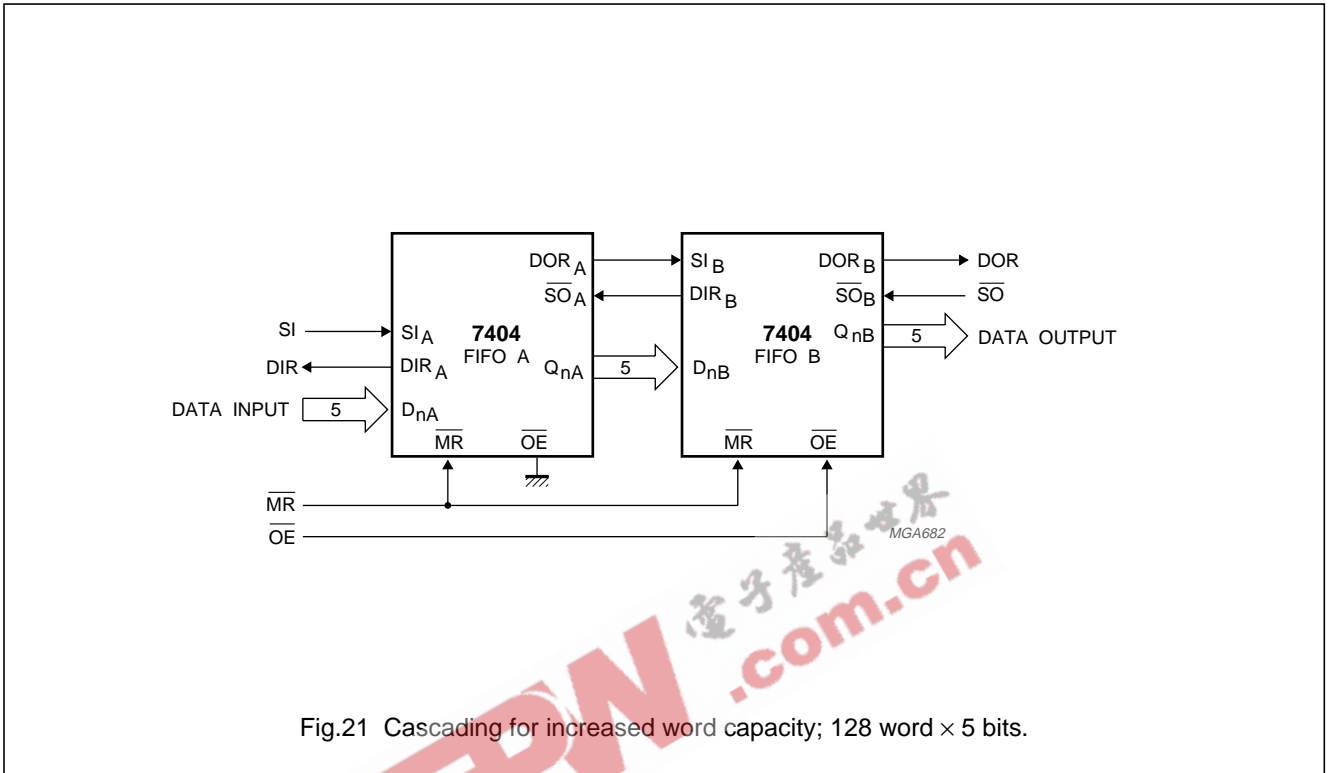
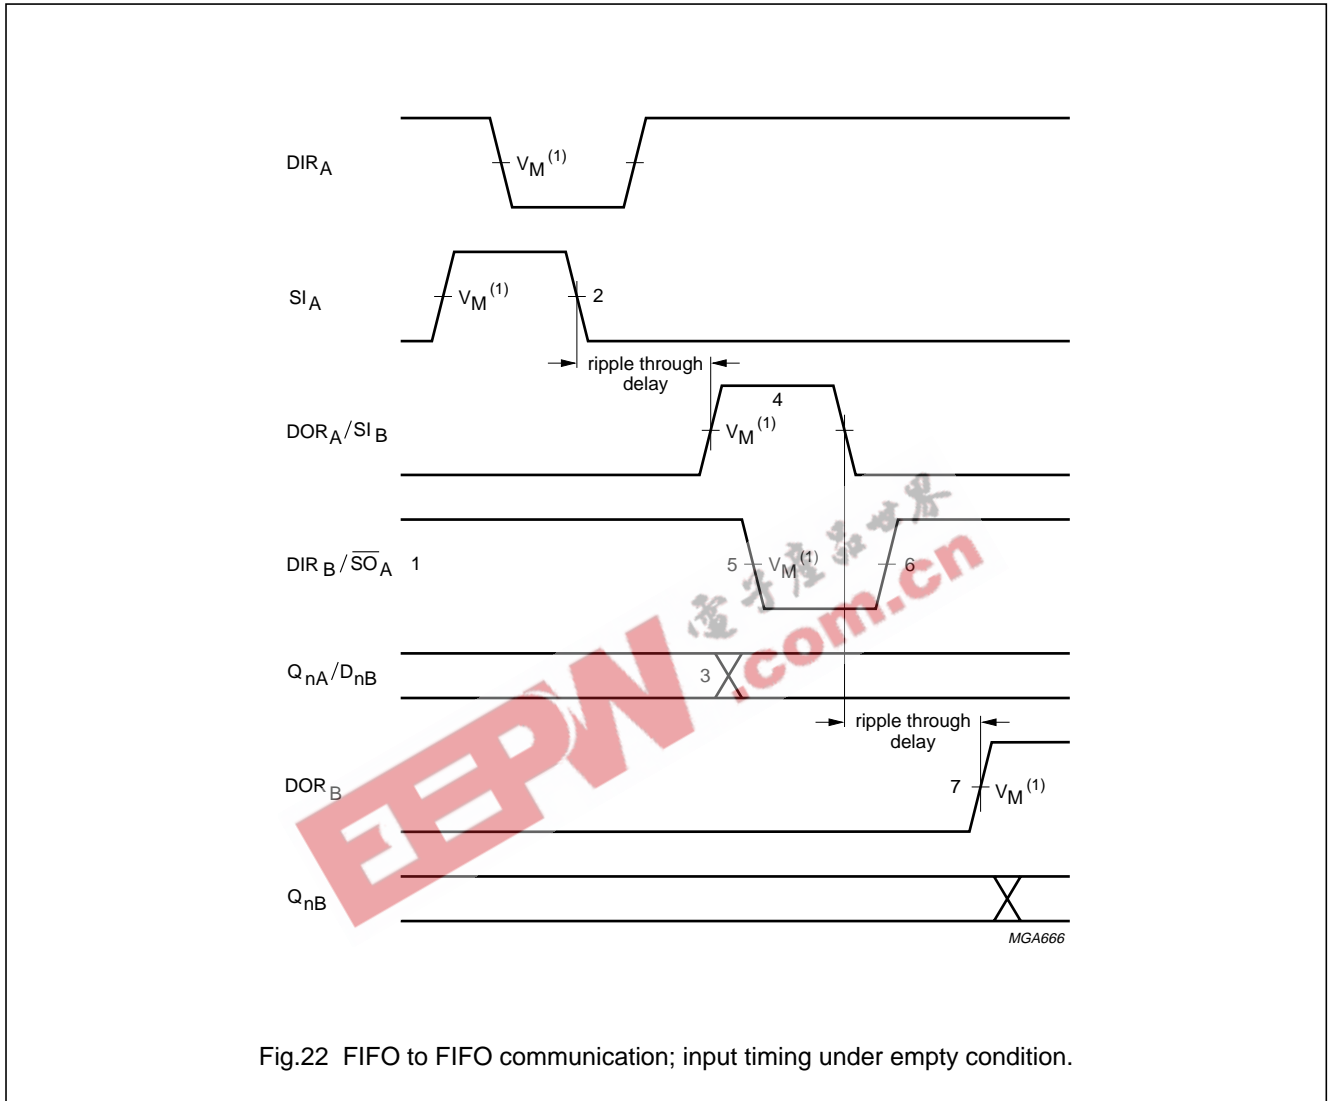
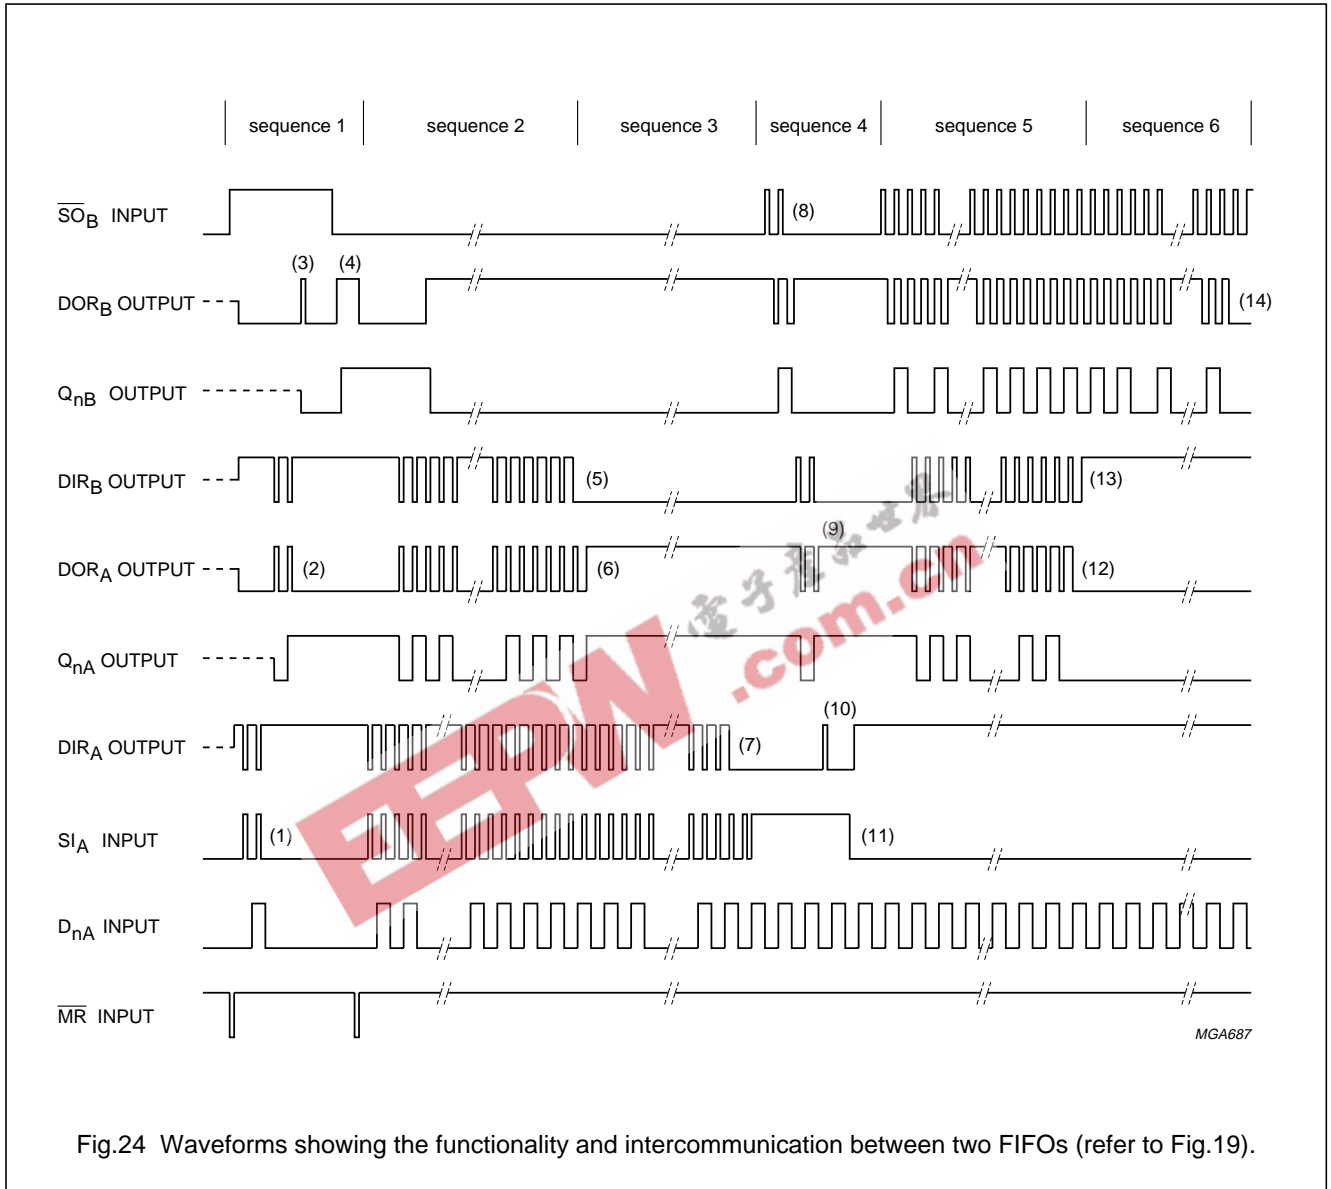

Fig.21 Cascading for increased word capacity; 128 word x 5 bits.
Fig.22 FIFO to FIFO communication; input timing under empty condition.
Fig.24 Waveforms showing the functionality and intercommunication between two FIFOs (refer to Fig.19).
Figure 21 shows two cascaded FIFOs providing a capacity of 128 words x 5 bits. Figure 22 shows the signals on the nodes of both FIFOs after the application of a SI pulse, when both FIFOs are initially empty. After a ripple through delay, data arrives at the output of FIFOA. Due to  $\overline{SO}_A$  being HIGH, a DORA pulse is generated. The requirements of SIB and DnB are satisfied by the DORA pulse width and the timing between the rising edge of DORA and QnA. After a second ripple through delay, data arrives at the output of FIFOB.
Figure 24 shows the waveforms at all external nodes of both FIFOs during a complete shift-in and shift-out sequence.
**Note to Fig.21**
The "7404" is easily cascaded to increase word capacity without any external circuitry. In cascaded format, all necessary communications are handled by the FIFOs. Figures 22 and 23 demonstrate the intercommunication timing between FIFOA and FIFOB. Figure 24 provides an overview of pulses and timing of two cascaded FIFOs, when shifted full and shifted empty again.
Notes to Fig.22
**Note to Fig.24**